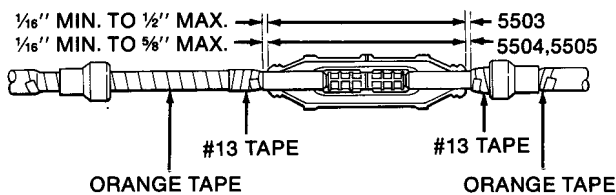

Figure 6
10. Center splice body over connector as shown in Figure 6.
11. Inspect splice body to insure that #13 Semi-Conductive Tape does not extend into the splice body. See Figure 6 for tolerance.